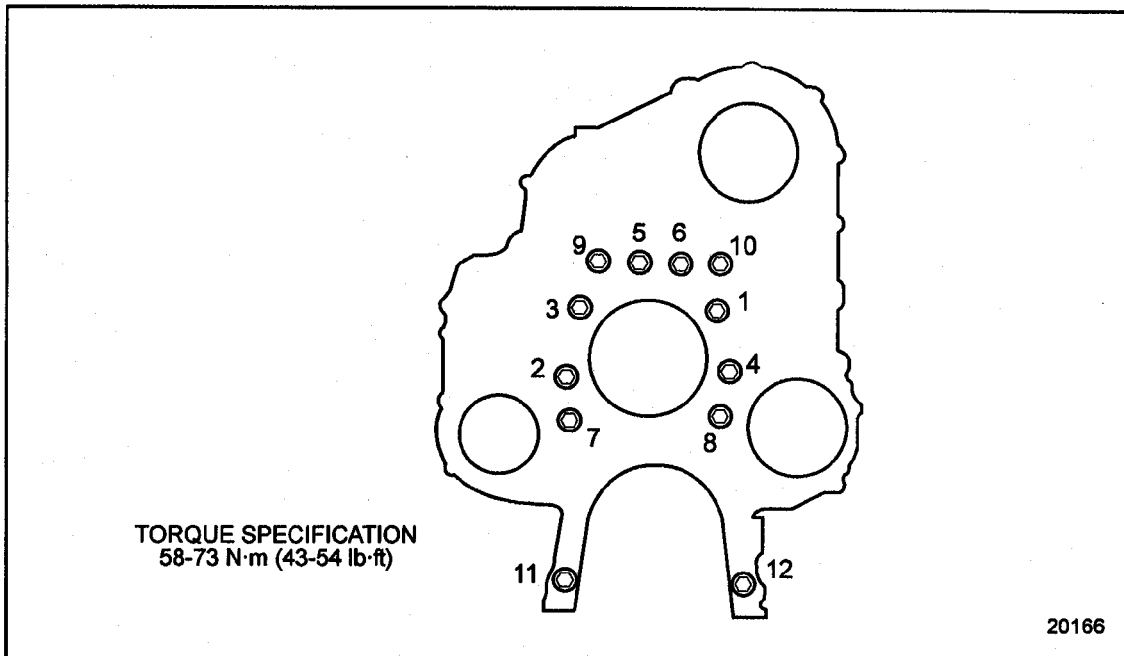

Figure 1-198 Gear Case Housing Bolt Torque Sequence
6. Torque the gear case-to-cylinder block bolts to 58-73 N·m (43-54 lb·ft). See Figure 1-198.